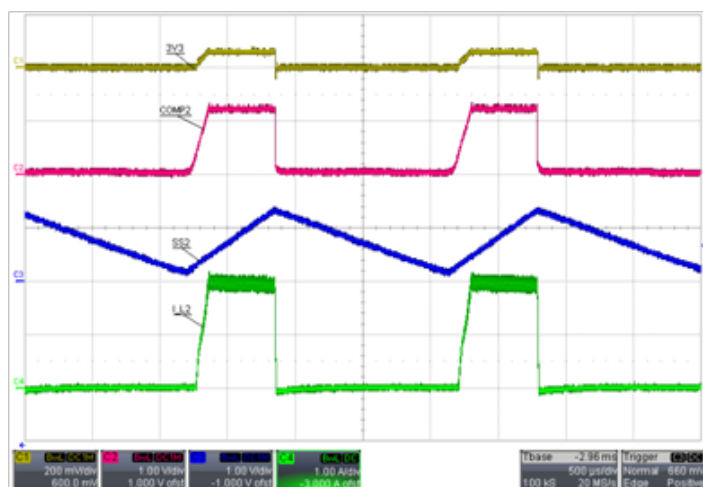

Figure 3: Synchronous Buck Hiccup Mode Operation when V_{OUT} is Shorted to GND and $C_{SS2} = 22$ nF
5. Hiccup mode short-circuit protection (shown in Figure 3)